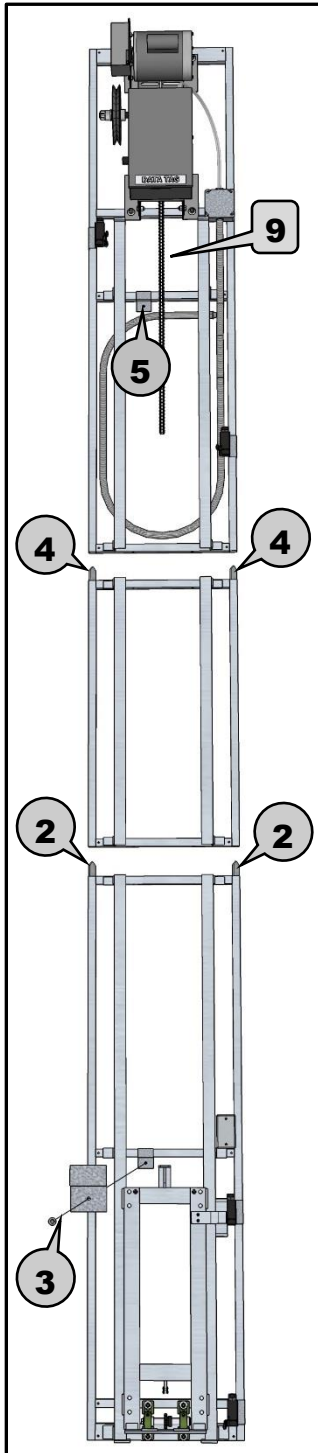

Figure 4
NOTE: For motor on top configuration, make sure the chain bundle is positioned down the track & rail in between track and not behind rail. (see Page 11, Figures 4 & 5, **9**)
- 2** Drop two (2) stacking pins into the top of the two outer vertical tubes of the bottom section, and position section centered against the mounting wall. (**see Figure 4**)
- 3** Use provided frame clip and 2" screw to temporarily hold section in place against the wall. Make sure screws go into solid wood. (**see Figure 4**)
- 4** Drop two (2) stacking pins into the top of the two outer vertical tubes of the next section, and position section on top of previous section using the stacking pins to guide it into place centered against the mounting wall. (**see Figure 4**)
- 5** Use provided frame clip and 2" screw to temporarily hold section in place against the wall. Make sure screws go into solid wood. (**see Figure 4**)